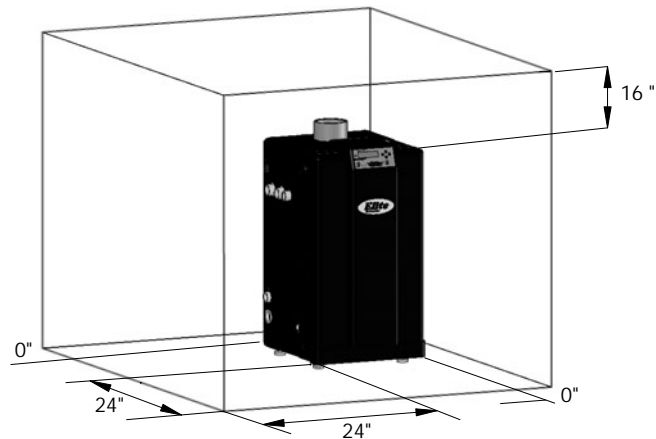

Figure 3-3
1. See Figure 3-3 for recommended service clearances. If you do not provide minimum clearances shown, it might not be possible to service the boiler without removing it from the space.